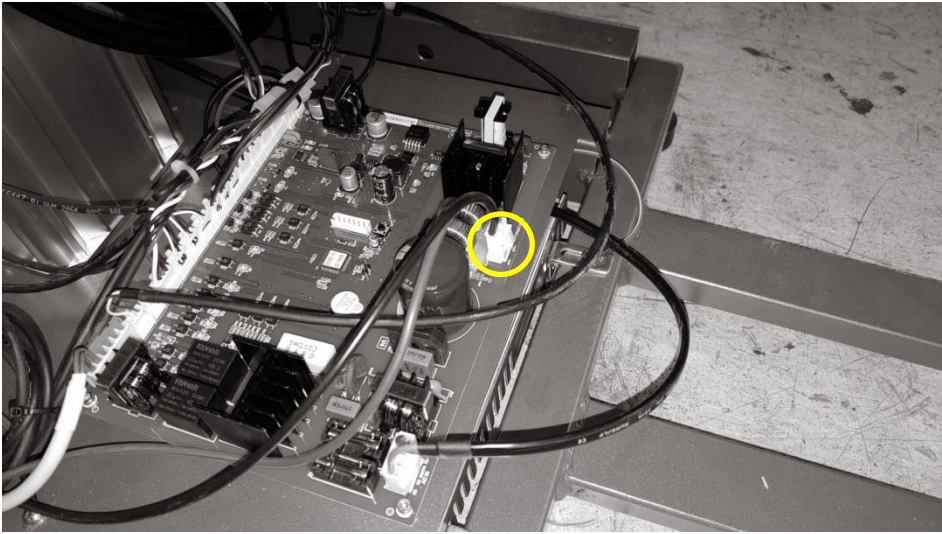

Figure 4.1
2. Disconnect the flexion motor cables (see Figure 4.1, 4.2).